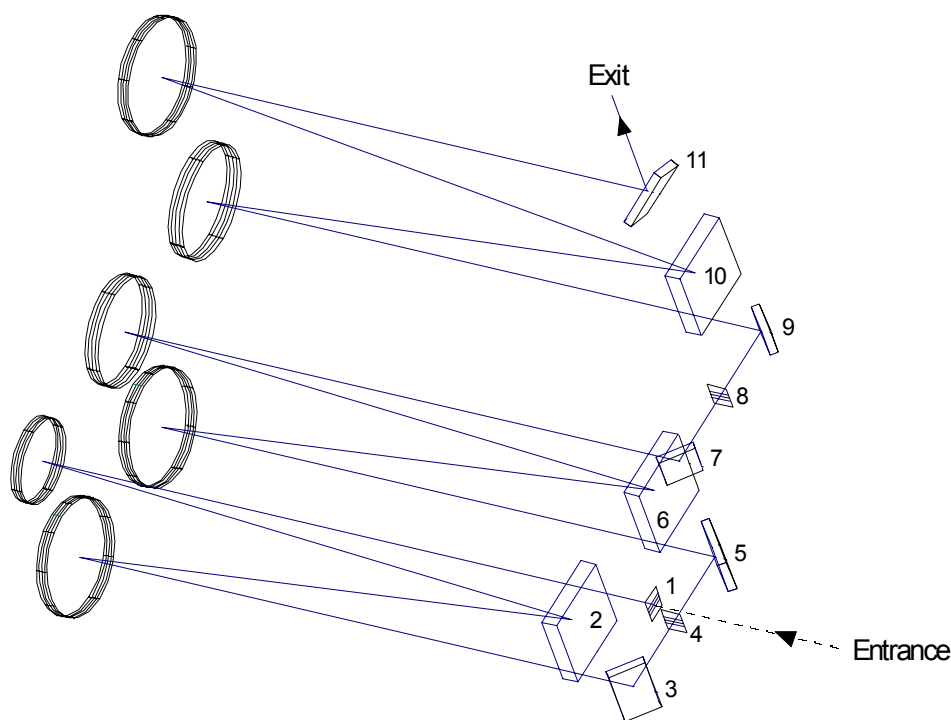

Figure 1-4 Basic configuration Optical Diagram
Subtractive configuration double stage monochromator includes the following components (see figure 1-4):
- One manual axial entrance slit 0-2 mm with height limiter (No.1, figure 1-4),
- One manual intermediate slit 0-50 mm with height limiter (No.4, figure 1-4),
- Two fixed mirrors on each side of the intermediate slit (No.3 and 5, figure 1-4),
- One fixed mirror in front of the exit slit (No.7, figure 1-4),
- One set of aberration corrected holographic gratings (1800 gr/mm, 76 x 76 mm) (No.2 and 6, figure 1-4).
- One manual intermediate slit 0-25 mm with height limiter (No.8, figure 1-4),
- One fixed mirror ensuing the intermediate slit (No.9, figure 1-4),
- One aberration corrected holographic grating (1800 gr/mm, 76 x 76 mm)(No.10, figure 1-4),